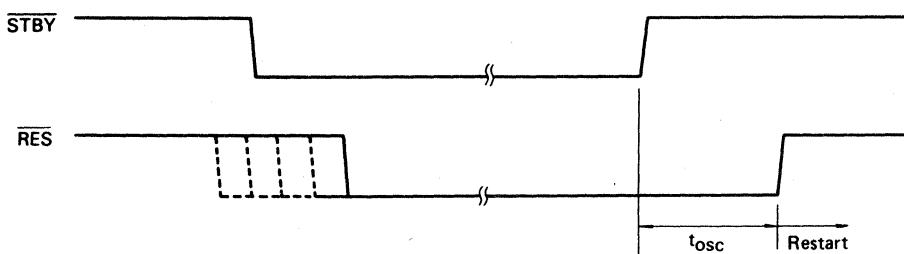

Fig. 2-20 Timing Chart of Releasing from Standby Mode
The MCU goes into the standby mode when the $\overline{\text{STBY}}$ goes "Low". In this mode, all MCU operations stop and the internal condition is reset, holding the RAM contents. All I/O terminals enter into high-impedance state. The standby mode can be exited by asserting $\overline{\text{STBY}}$ "High", and $\overline{\text{RES}}$ "Low" simultaneously. Then, $\overline{\text{RES}}$ should be held "Low" for at least 20 ms (t_{osc}) to assure oscillation stabilization time. Fig. 2-20 shows $\overline{\text{RES}}$ and $\overline{\text{STBY}}$ timing.
** Refer to Fig. 2-20.